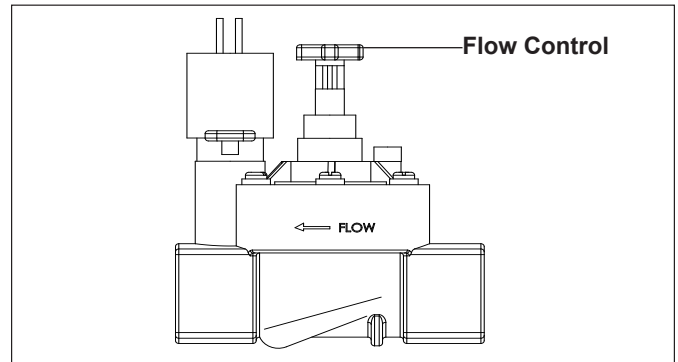

Figure 10. Valve Flow Controller
3. Turn the flow control knob (+) on the top of the valve (See Figure 10) to set the flow rate to your specifications.